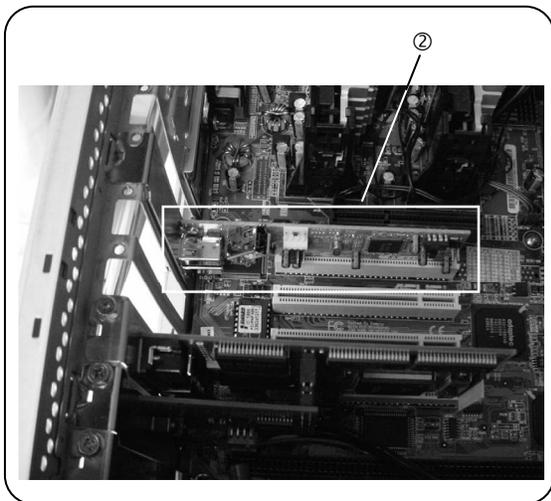

Fig. 2
- 3) Insert the FireWire PC card ① into the PC card slot of the laptop PC.
#### ①-b Mounting of IEEE1394a Card (Only Desktop PC) (Fig.2)